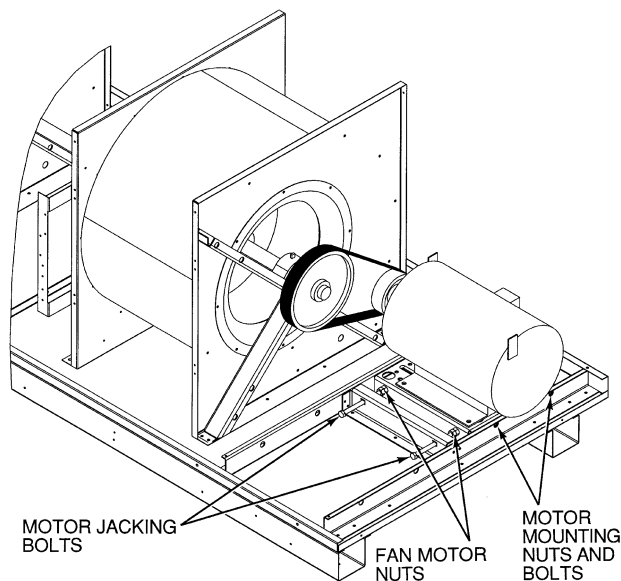

Fig. 50 — Belt Tension Adjustment
3. Loosen fan motor nuts. See Fig. 50.